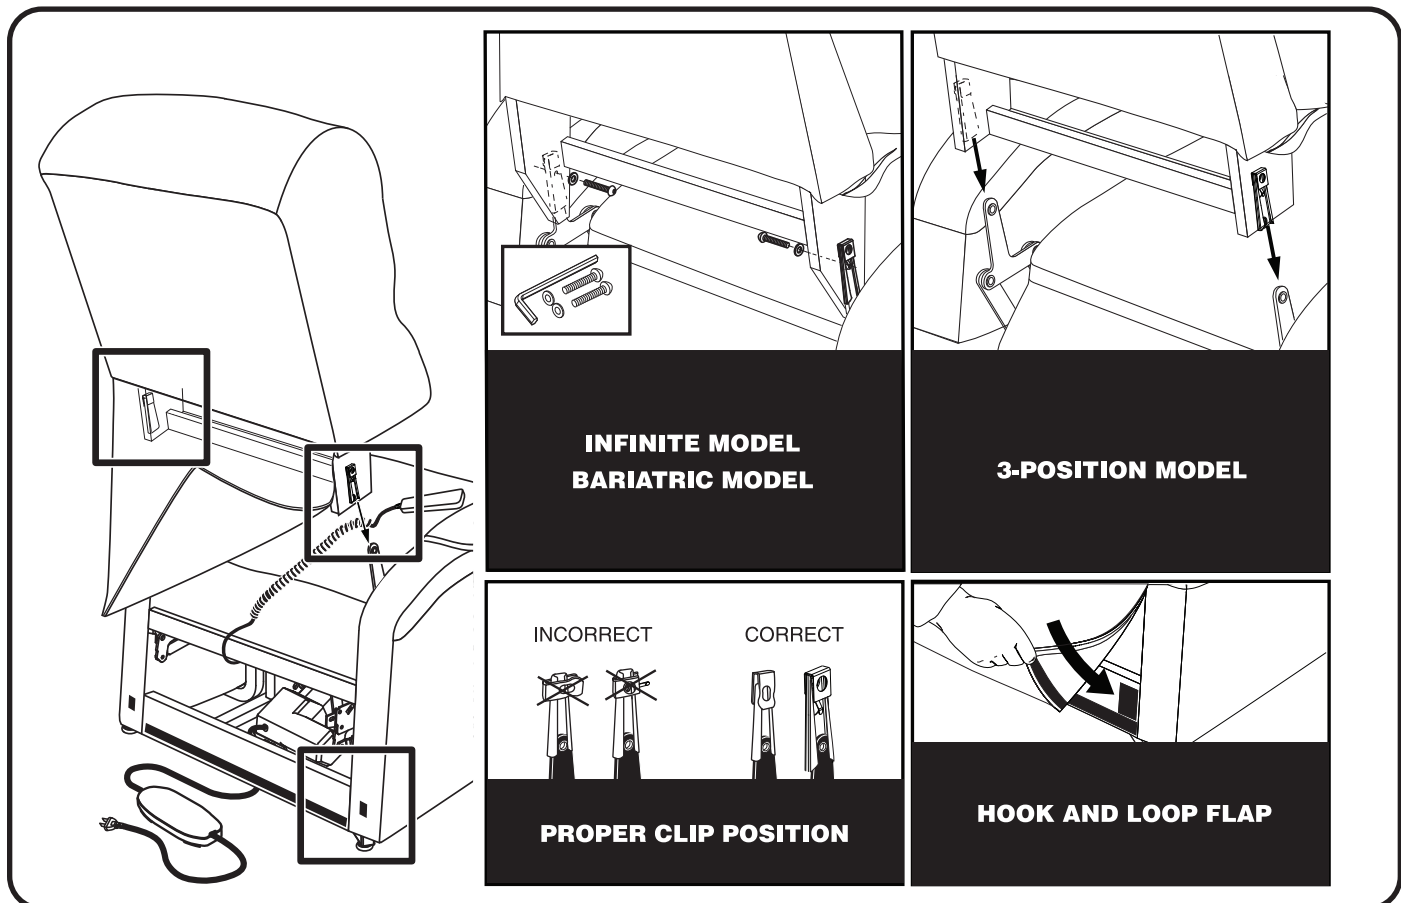

Figure 4.1 Chair Assembly
**NOTE: If your chair is an Infinite model, refer to the assembly instructions provided with the chair. For the 2-position model, the KD sleeves are located on the inside as shown in figure 4.1.**